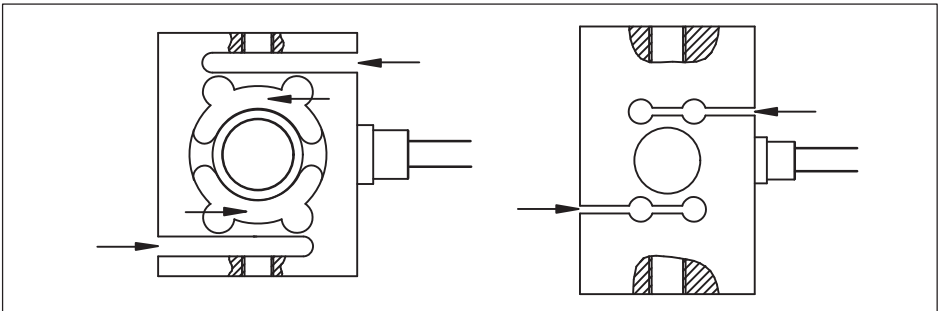

Fig. 6.1 Deposits at the marked areas must be avoided
*Measurement errors may be the result if dust or dirt is deposited inside the load cells. The relevant areas are marked by arrows in Fig. 6.1.*